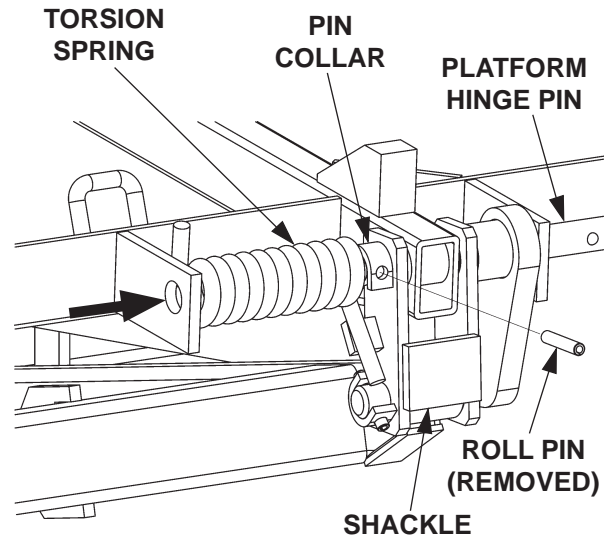

FIG. 19-1
4. Drive out the roll pin from pin collar on the platform hinge bracket. Drive the platform hinge pin outboard from the shackle just enough to free the torsion spring (**FIG. 19-1**). Remove torsion spring.